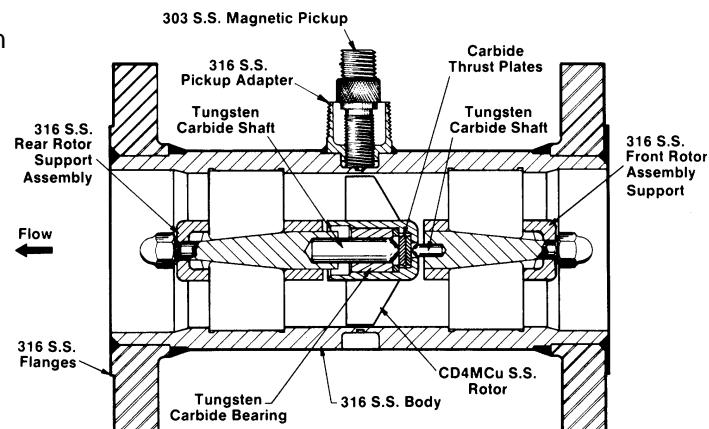

Figure 5
Size 4 Inch (Figure 5)
- 6) For installation in older bodies (prior to December 1, 1970), which are not grooved, the sliding vane can be turned upside down (Figure 5) so the ear is buried in the support.